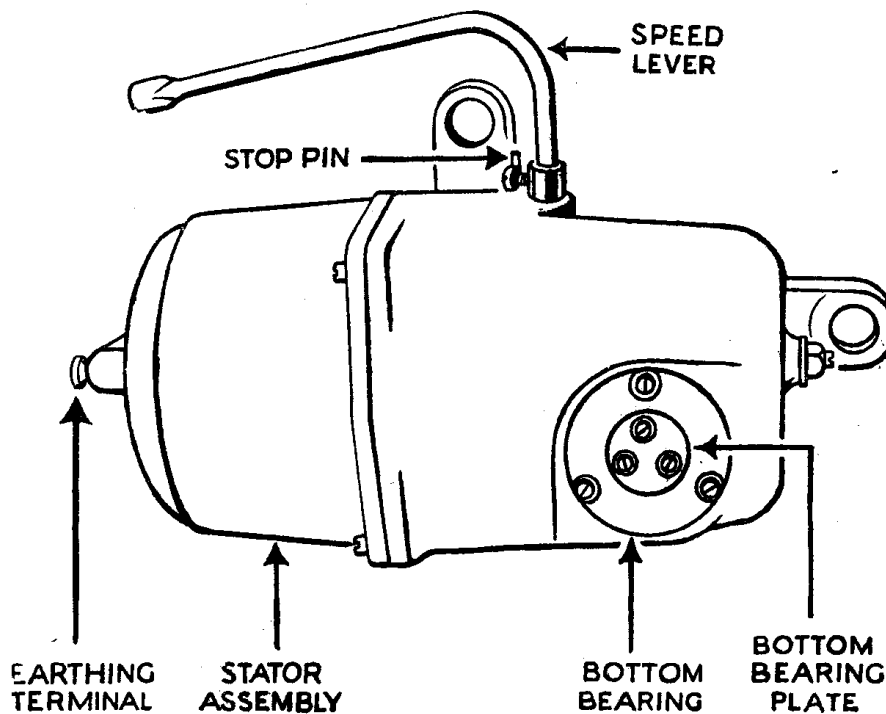

Fig. 4.
2. Slack off the cheese-head screw (fixing collar) which engages with the stop pin—see Fig. 4.